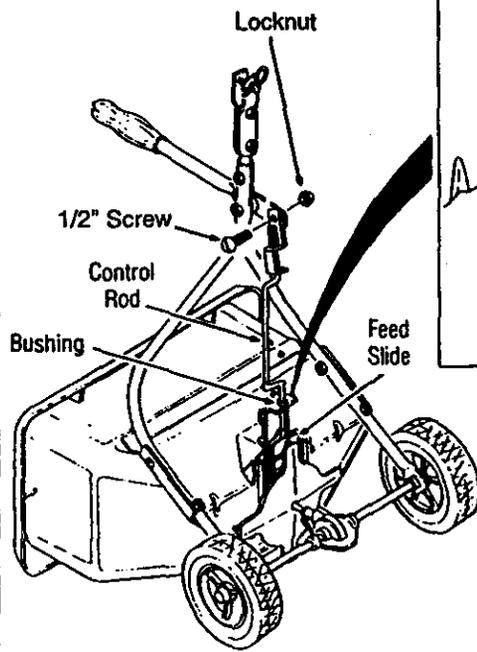

FIGURE 1
- Insert lower end of control rod through hole in setting cam assembly. (Figure 1)